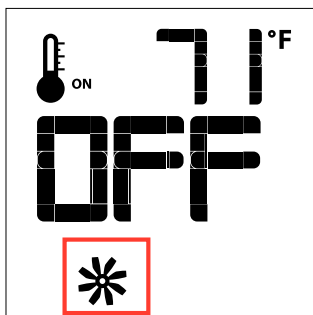
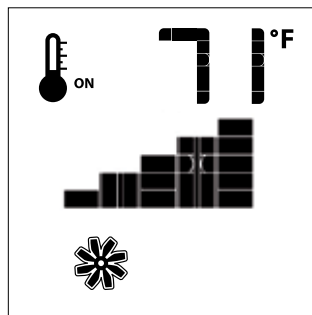

Figure 13
Figure 14
If the appliance is equipped with a hot air circulating fan, the speed of the fan can be controlled by the Proflame system. The fan speed can be adjusted through six (6) speeds. To activate this function use the Mode Key (fig.1) to index to the fan control icon (Fig. 13). Use the Up/Down Arrow Keys (fig. 1) to turn on, off or adjust the fan speed (fig. 14). A single "beep" will confirm reception of the command.